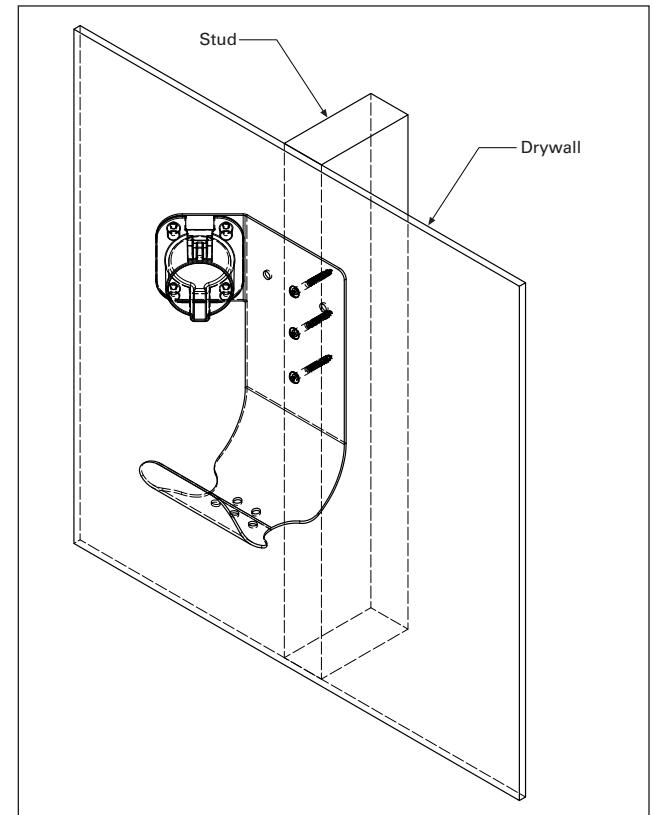

Figure 2. Attaching premium cord holster to wall
Step 4. As shown in **Figure 2**, attach the premium cord holster to the wall using three #10 x 1-1/2 inch woodscrews screws.